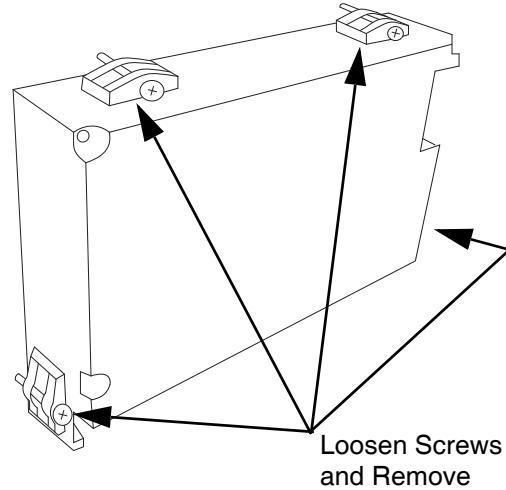

**FIG. 4: Disconnect the Front Panel**
7. Disconnect the front panel from the control box by removing the five screws shown in Figure 4. This provides easier access to the HMI.